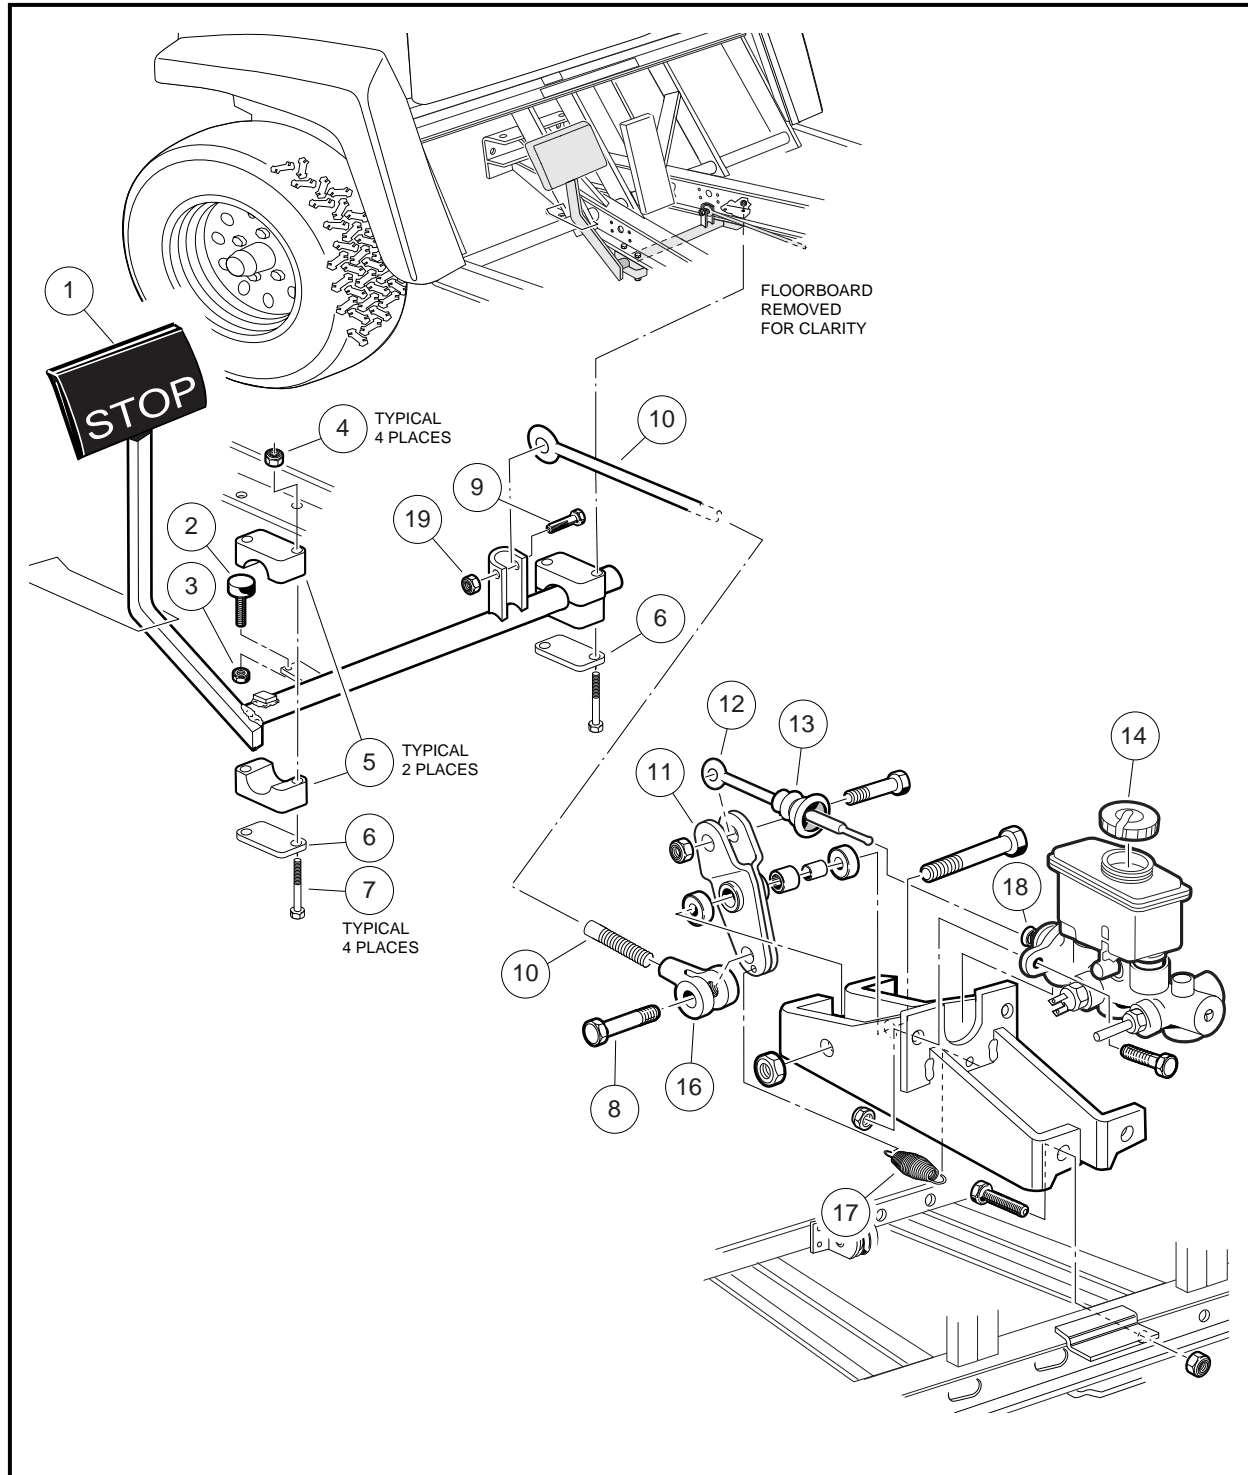
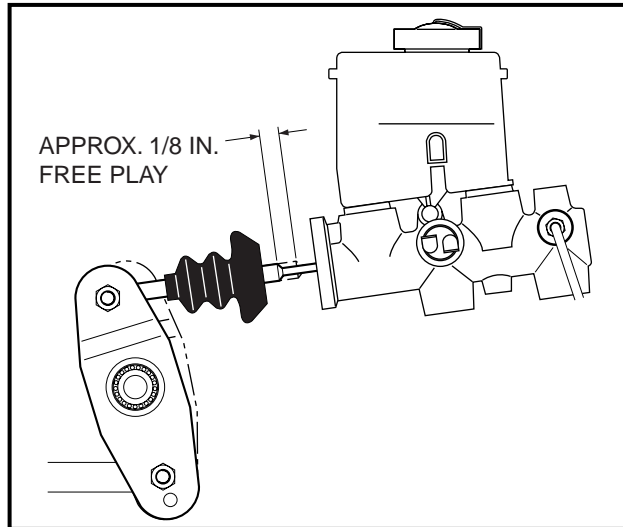
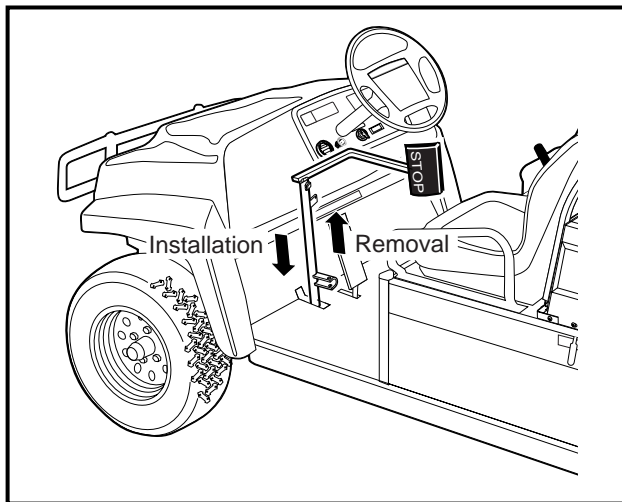

Figure 5-1 Brake Pedal Assembly
Figure 5-4 Push Rod Free Play
Figure 5-10 Brake Pedal Weldment Through Floor
2. Remove the rod retaining bolt (8) and remove the clevis (16) from the bell crank assembly (11) (**Figure 5-1, Page 5-2**).
8. Adjust the clevis (16) by rotating it clockwise or counterclockwise so that the rod retaining bolt (8) can easily be placed through the clevis (16) and the bottom hole in the bell crank assembly (11) (**Figure 5-1, Page 5-2**).
NOTE: The spring (17) should not be under tension while the brake pedal is at rest (**Figure 5-1, Page 5-2**).
9. Install the rod retaining bolt (8) through the clevis (16) and the bell crank (11). Tighten the bolt to 14 ft-lb (19 N·m) (**Figure 5-1, Page 5-2**).
10. While observing the push rod, press the brake pedal. There should be at least 1/8 inch of free play (at the push rod) before the push rod begins to depress the master cylinder piston (**Figure 5-4, Page 5-4**). An accurate measurement is not necessary, but it must be a minimum of 1/8 inch so that the push rod does not contact the master cylinder piston when the pedal is at rest.
NOTE: Brake pedal free play is the distance the push rod (12) travels before the master cylinder piston (18) is depressed (**Figure 5-1, Page 5-2**). See also **Figure 5-4, Page 5-4**.
- 3.1. Remove the bolt (9) and nut (19) from the brake pedal weldment (**Figure 5-1, Page 5-2**).
- 3.2. Remove nuts (4), retaining plates (6), bolts (7), and mounting blocks (5). If the mounting blocks (5) show signs of excessive wear, or are damaged, they must be replaced with new ones before installing pedal assembly (**Figure 5-1, Page 5-2**).
- 3.3. Remove the nut (3) and brake stop (2) (**Figure 5-1, Page 5-2**).
- 3.4. Lift pedal assembly (1) through the floorboard (**Figure 5-1, Page 5-2 and Figure 5-10, Page 5-7**).
1. From the top side of the floorboard, insert the brake pedal weldment assembly (1) (**Figure 5-1, Page 5-2**) through the opening in the floor as shown (**Figure 5-10, Page 5-7**) and install the pedal stop (2) and nut (3) (**Figure 5-1, Page 5-2**) on the weldment.
2. Attach the equalizer rod (10) to the brake pedal weldment assembly (1) as shown (**Figure 5-1, Page 5-2**). Tighten to 17 in-lb (23 N·m).
3. Position and attach brake pedal assembly and mounting blocks (5) to vehicle frame as shown. Tighten to 50 in-lb (6.5 N·m) (**Figure 5-1, Page 5-2**).